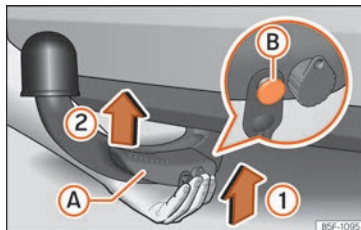

Fig. 255 Fitting the detachable ball / Release bolt in the deployed position.
- Grip the detachable ball **from below** >>> **Fig. 255** and insert it into the hook housing